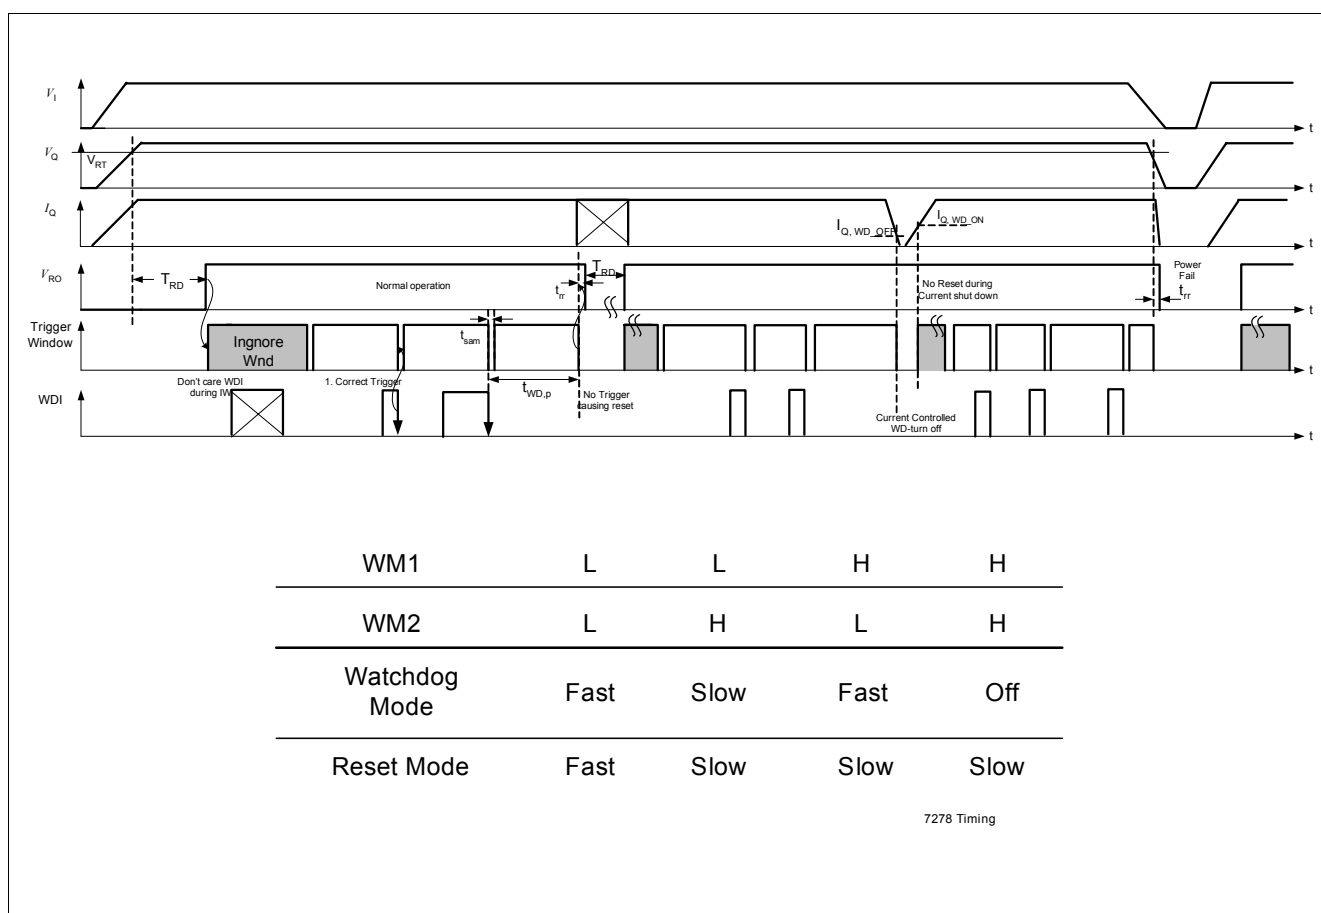

Figure 5 Watchdog Timing Diagram, Watchdog and Reset Modes
The watchdog uses a fraction of the charge pump oscillator's clock signal as timebase. The watchdog timebase can be adjusted using the pins WM1 and WM2 (see Figure 5). The watchdog can be turned off setting WM1 and WM2 to high level. The timing values used this text refer to typ. values with WM1 and WM2 connected to GND (fast watchdog and reset timing).
Figure 5 shows the state diagram of the watchdog (WD) and the mode selection. After power-on, the reset output signal at the RO pin (microcontroller reset) is kept LOW for the reset delay time T_{RD} of typ. 16 ms. With the LOW to HIGH transition of the signal at RO the device starts the ignore window time t_{CW} (32 ms). Next the WD starts the Watchdog Period (time frame within a trigger at WDI must occur). From now on the timing of the signal on WDI from the micro controller must correspond the WD-Period $t_{WD,p}$ correspondent the electrical characteristics and based on the setting on the WM pins. A Re-Trigger of the WD-Period is done with a HIGH-to-LOW Transient at the WDI-pin within the set $t_{WD,p}$.